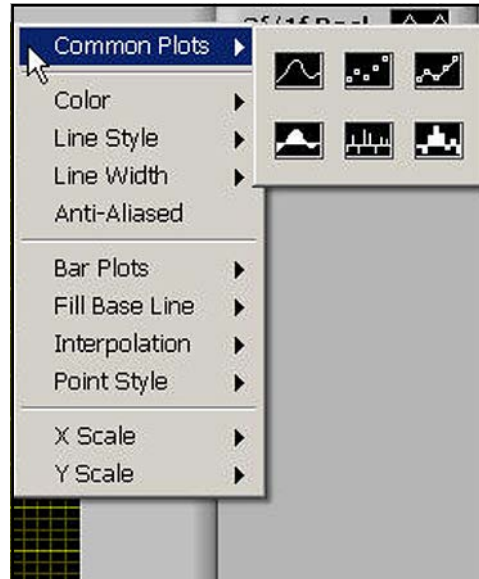

Figure 74: Options for Graphing Data
2. If you right-click on any series of data within the graph, or you click on the current parameter being-trended item in the legend, you will see a variety of options for graphing data (see *Figure 74* below). You can change to a variety of common plots and adjust color, line style, and line width. For some data sets with lots of finite points, you may want to click **Anti-Aliased** which will smooth the plot line. You can also change bar plots, fill base line, interpolation and point style. X-Scale adjusts the x-scale. Y-Scale adjusts the y-scale and enables the secondary y-axis.